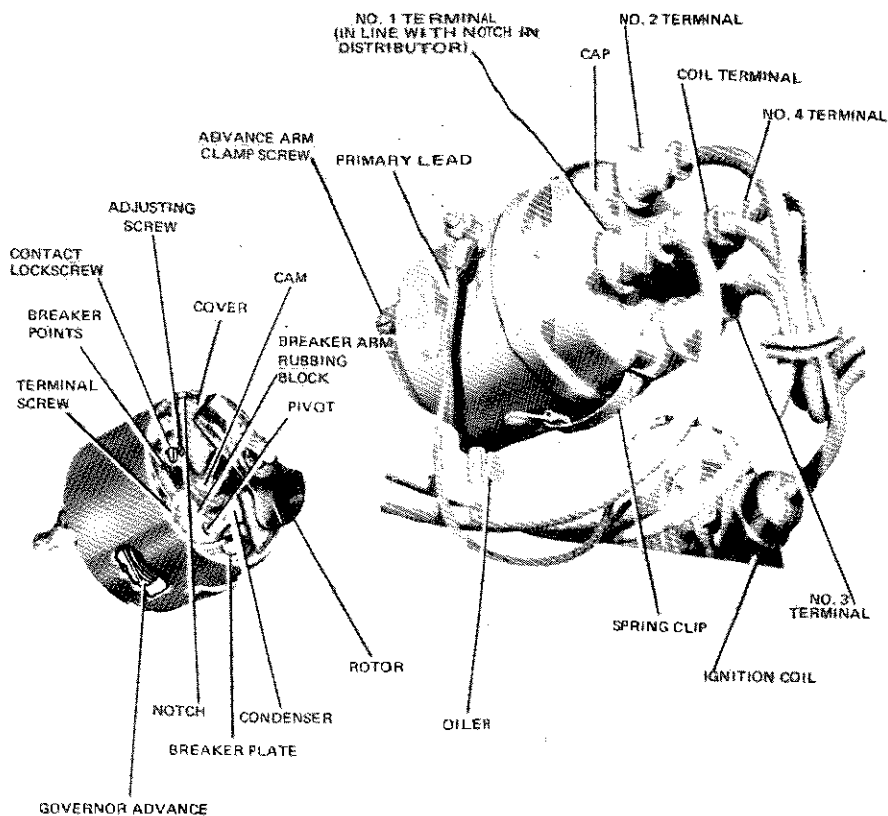

Figure IV-38 Distributor Assembly
The ignition spark must occur at the correct time and with sufficient intensity to ignite the compressed fuel-air mixture. All components of the ignition system must function properly for satisfactory and economical operation. This system consists of an ignition coil, distributor, spark plugs, and ignition cables. The function of the coil is to transfer the low primary voltage to a voltage high enough to supply sufficient spark for all conditions of load and speed. The distributor has a double function. It distributes the high tension secondary voltage to the spark plugs in the proper sequence, and it opens the ignition points at the proper time to fire the spark plugs. At high speeds, the spark must occur at the spark plug earlier in the compression stroke to give the fuel-air mixture time to ignite and apply the developed energy to the piston on its power stroke. Variable spark timing in relation to engine speed is accomplished by the centrifugal advance mechanism of the distributor (figure IV-38).
F. DISTRIBUTOR (figure IV-38)